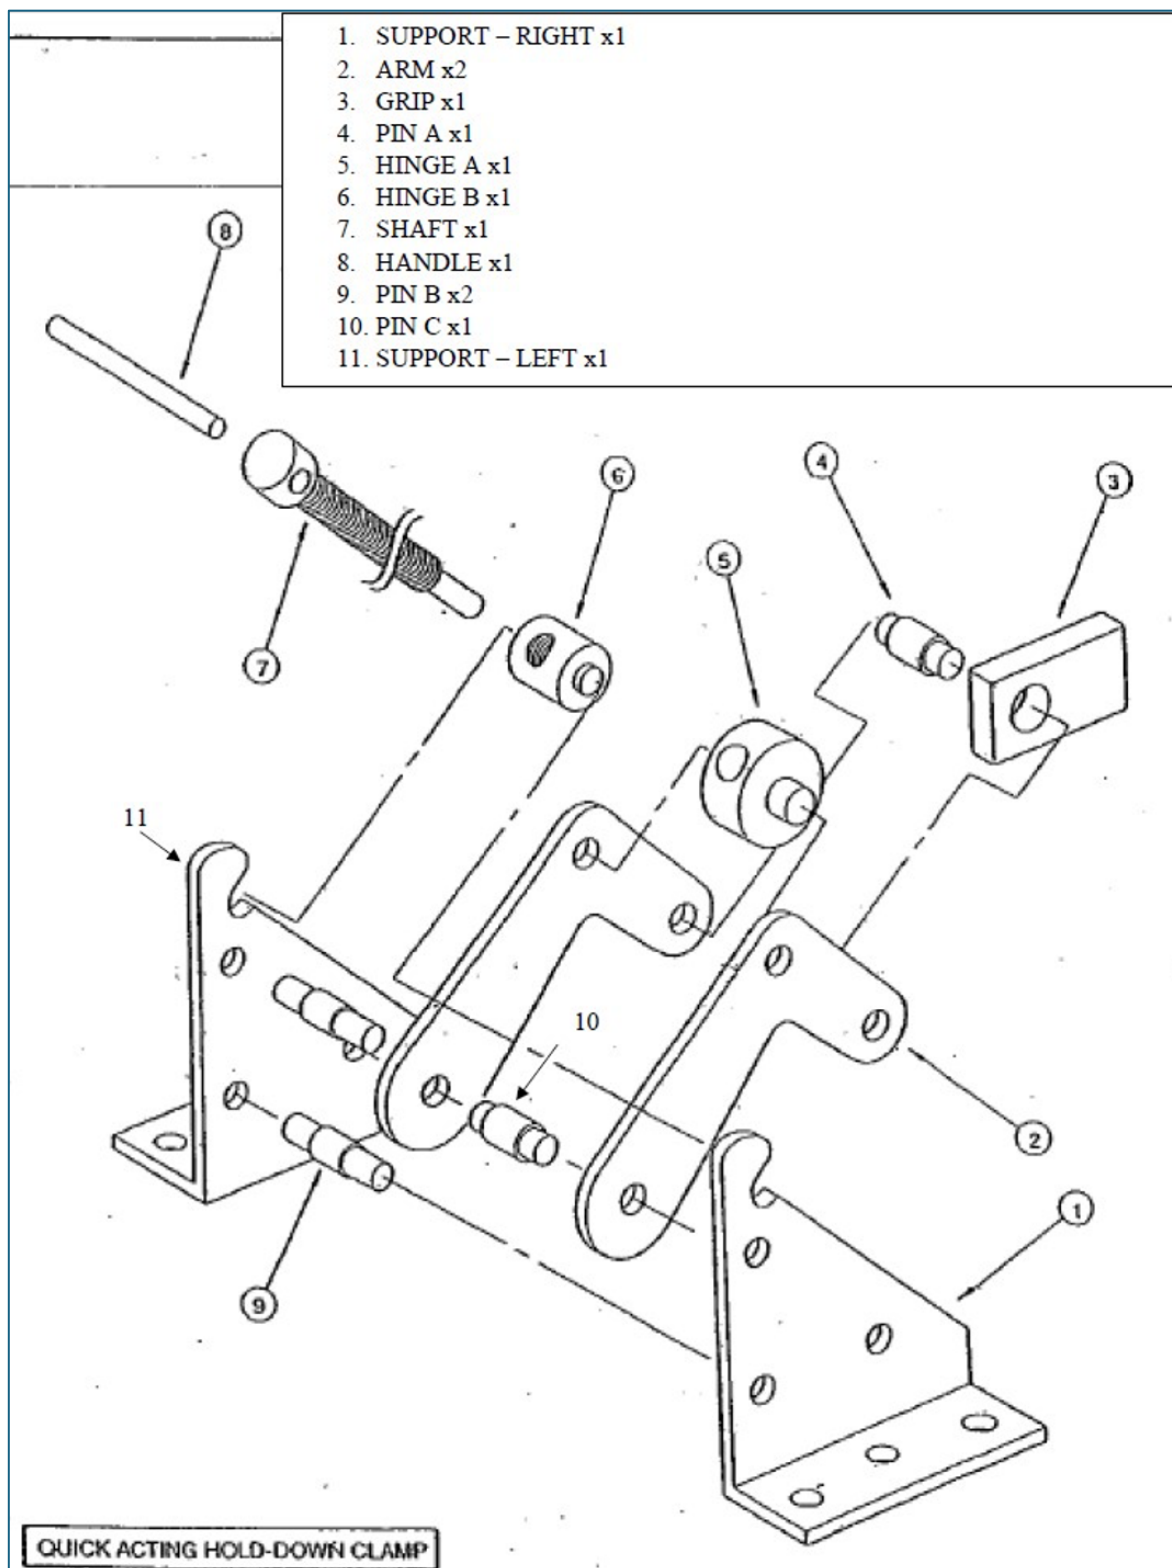

Figure 3 – Exploded View
- There are several pin types (make sure to place them in their appropriate location – see Figure 3 – Exploded View).